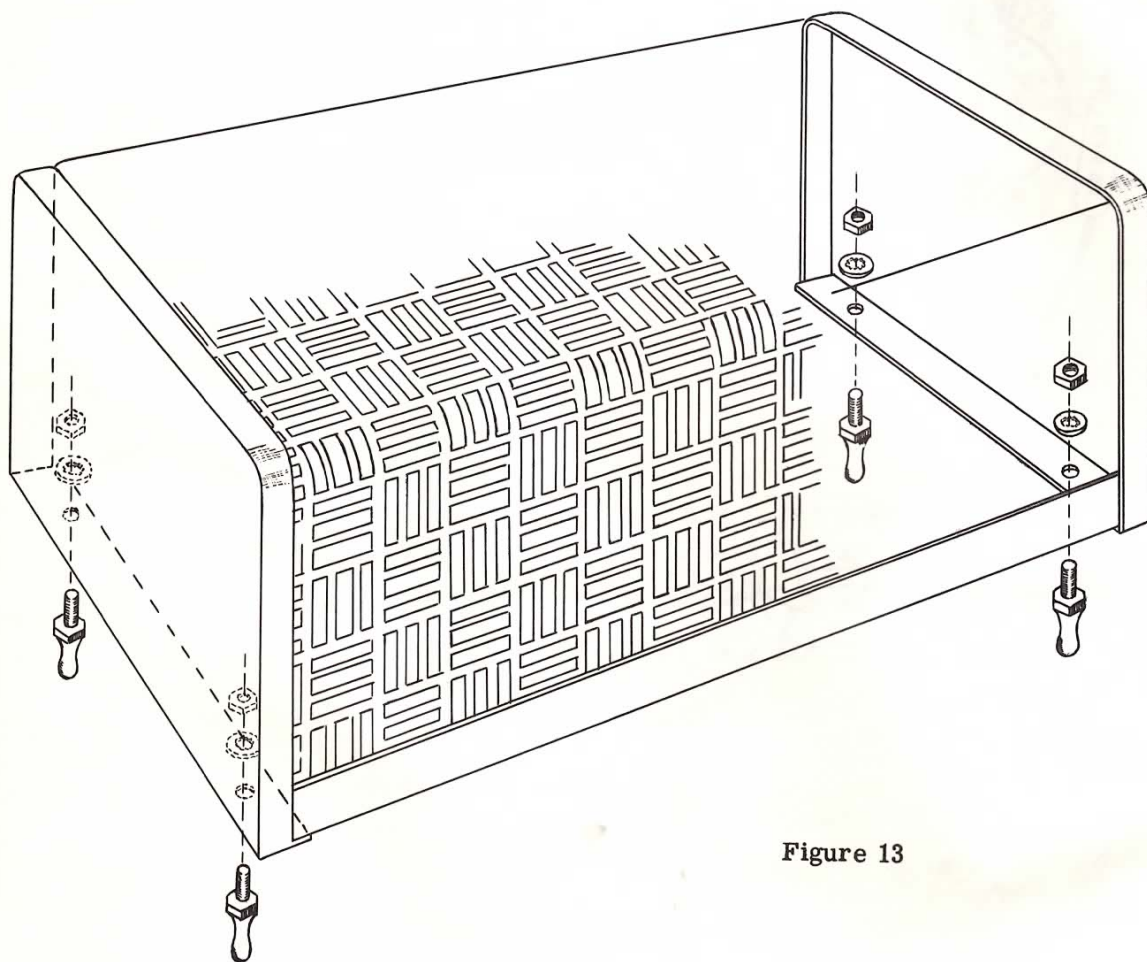

Figure 13
- (✓) Prepare the perforated metal cover by installing the four spring catch pins as shown in Figure 13. Secure each pin with a #6 lockwasher and a 6-32 nut.